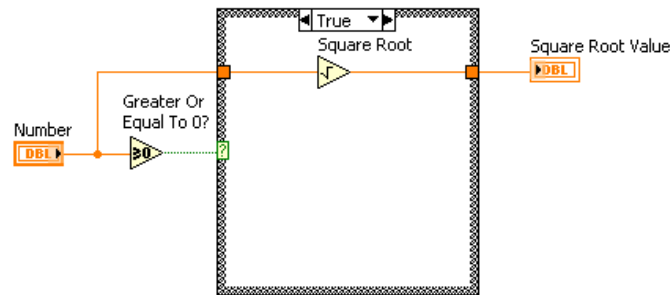

Figure 8.12
2. Select the True case of the Case structure. Place the Square Root function, located on the Functions>>Arithmetic & Comparison>>Express Numeric palette, on the block diagram. This function returns the square root of Number. Wire the function as shown in Figure 8.12.